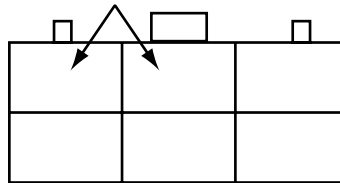
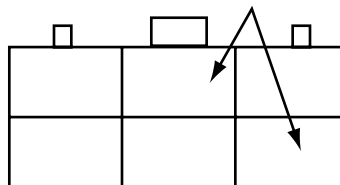
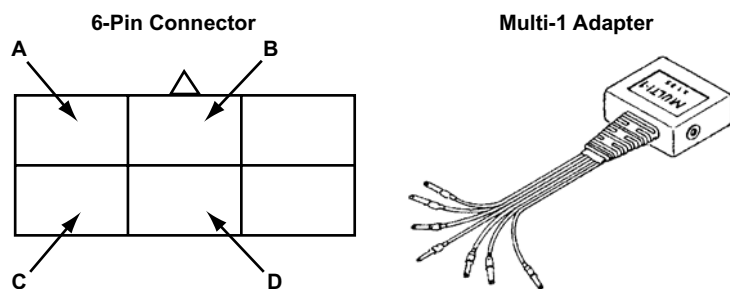

Figure 6-3 Jumper Engine connector. Pins as shown for flash codes (Flash Codes)
Figure 6-4 Jumper ABS 6-pin connector pins shown for flash codes.
Figure 6-7 1990-1992 6-pin Transmission connector and MULTI-1 adapter
Jump the appropriate connector pins to manually access Daihatsu engine and antilock brake system codes. Refer to Figure 6-4 and Table 6-1 on page 51 to read the codes.
- Jump pins shown in Figure 6-3 and turn the ignition on. Engine and ABS codes flash the same. See Figure 6-7 and Table 6-1 on page 51 for manual code reading information.
- Jump pins as shown in Figure 6-4 and turn the ignition on. ABS codes and Engine codes flash the same. See Figure 6-7 and Table 6-1 on page 51 for manual code reading information.
- Connect the MULTI-1 adapter with black terminal converters to 6-pin connector as shown in Figure 6-7. The connector is located near the bulkhead in the engine compartment.